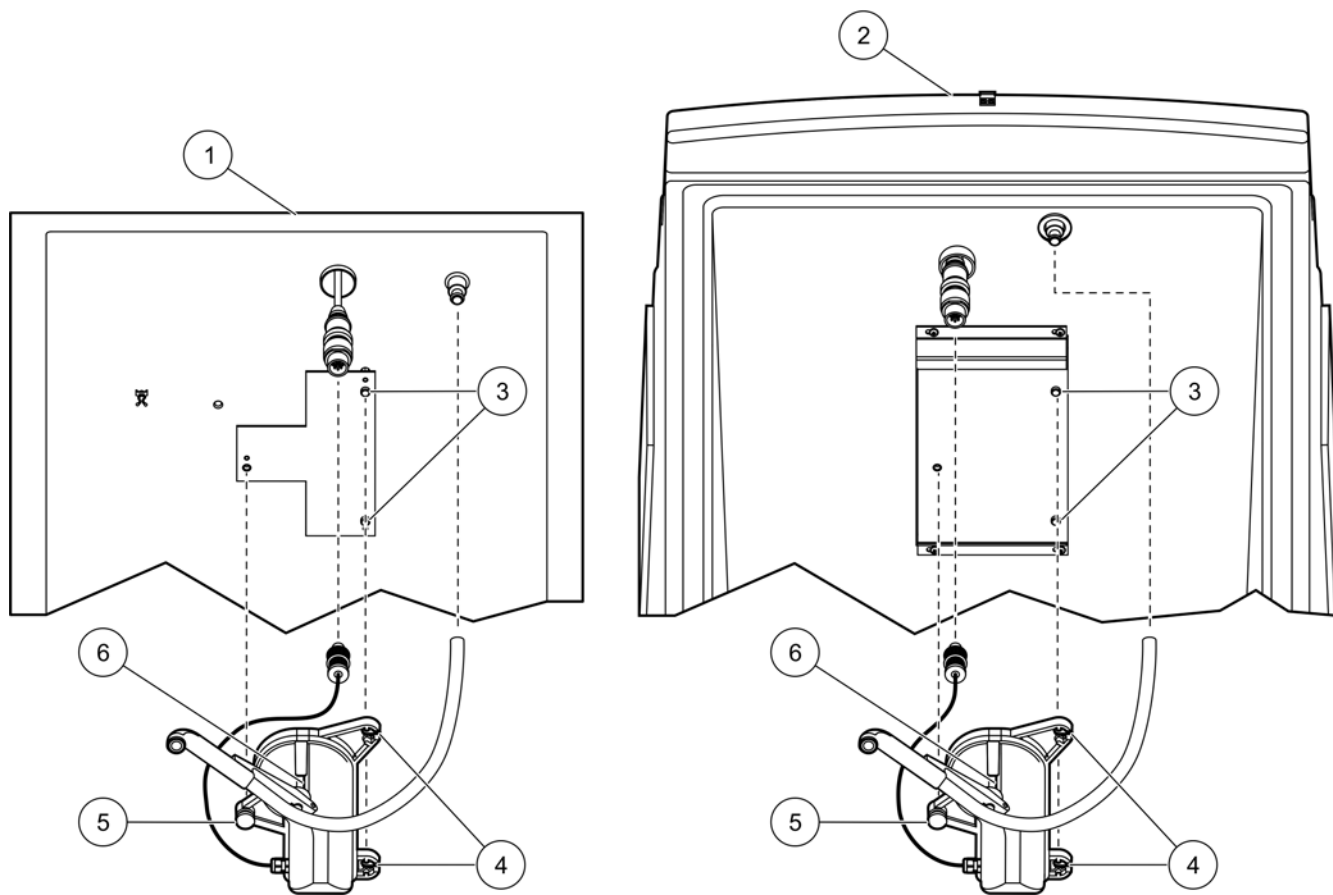

Figure 12 Distributor assembly installation
1. Slide the two slots in the distributor assembly housing under the retainer pins located on the top inside surface of the refrigerator (Figure 12).
3. Push the distributor tubing on the sampler fitting on the top inside surface of the refrigerator (Figure 12).